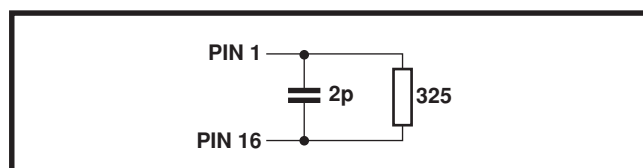
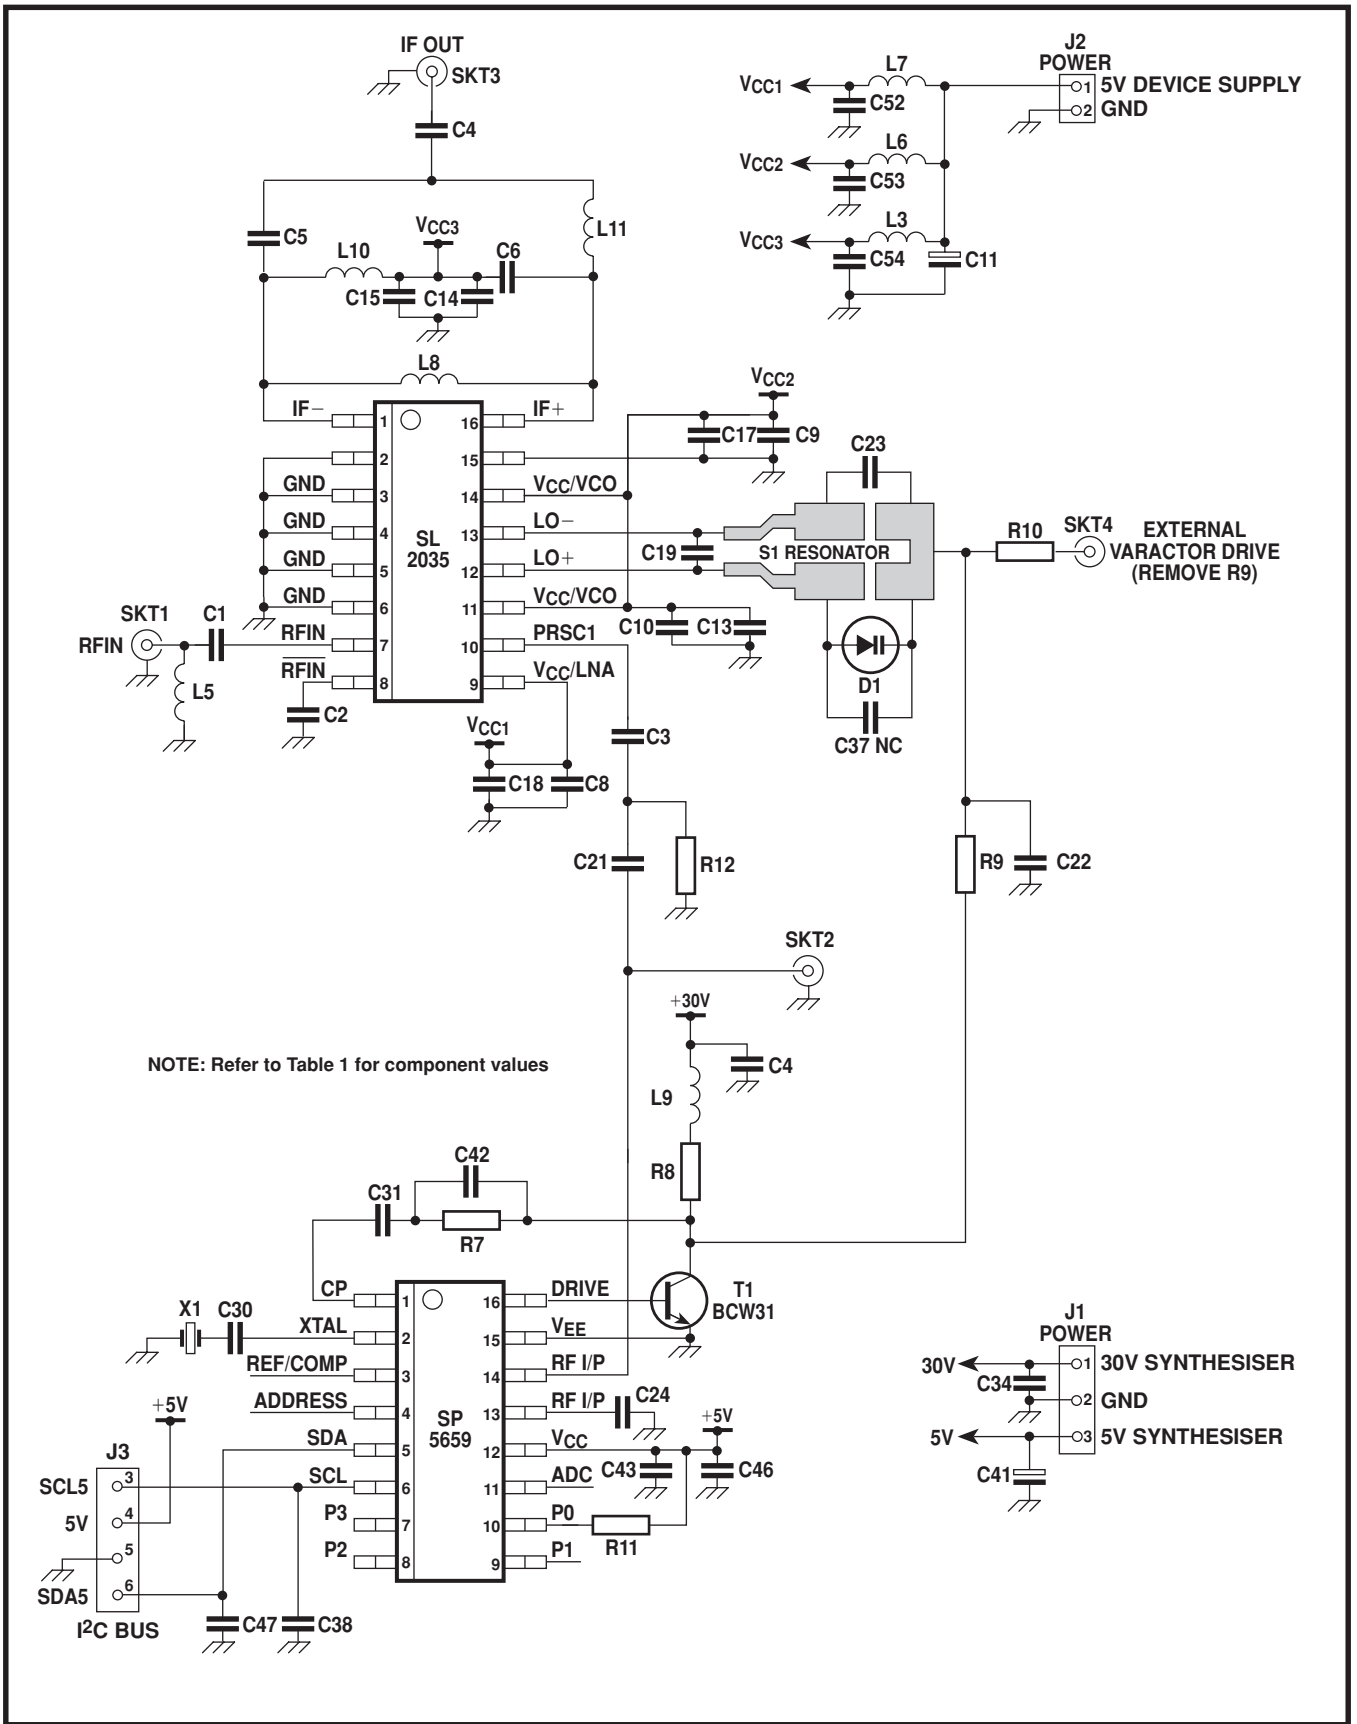

Figure 4 Approximate model of IF output
Figure 5 SL2035 upconverter application
The output of the preamplifier is fed to the mixer section which is optimised for low radiation application. In this stage the RF signal is mixed with the local oscillator frequency, which is generated by an on-chip oscillator. The oscillator block uses an external tuneable network and is optimised for low phase noise. A typical application is shown in Figure 5. This block also contains a buffer-amplifier to interface with an external PLL to allow for frequency synthesis of the local oscillator.
The IF output can be loaded either differentially or single-ended. It is recommended that the differential load as in Figure 5 is applied as this gives best noise performance. If the output is loaded single-ended the noise figure will be degraded. The approximate model of the IF output is shown in Figure 4.
- Any two tones within RF operating range at 92dB μ V with output load as in Figure 5.
Figure 5 shows the SL2035 in a typical downconverter application.
The network connected to the LO pin 12 and pin 13 is a varactor diode loaded resonant microstrip line resonator. Fine adjustment of the tuning range can be achieved by physically moving C19 (see Figure 5) closer to the LO pins. This extends the bottom end of the tuning range.
Table 1 Component values for Figure 5